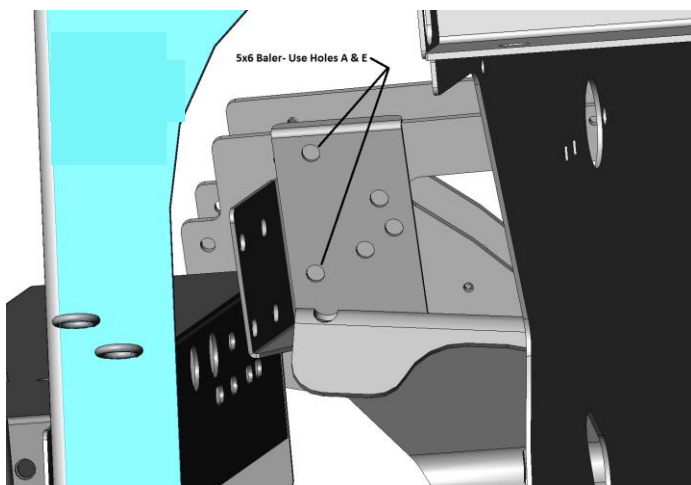

Figure 28
- B. If your baler is not equipped with bale shaping pads you will need to drill a hole in the chamber directly behind and above the starting roll. (Figure 28)